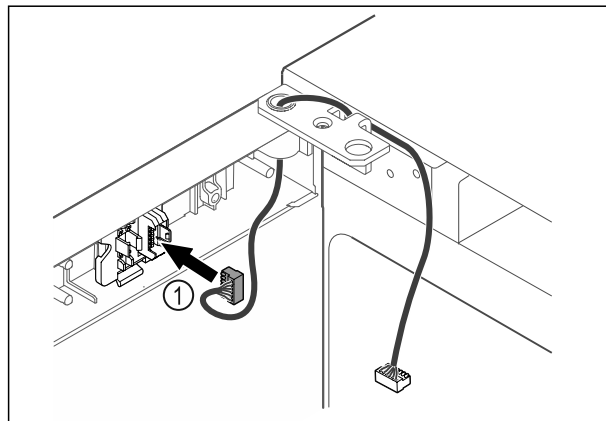

Fig. 53
- Put the plug Fig. 53 (1) in the plug holder.